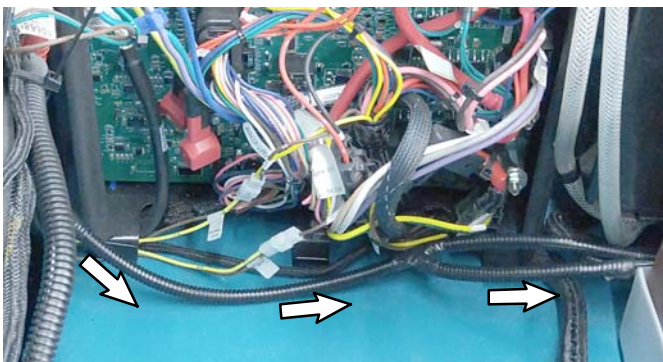

FIG. 17
18. Route telemetry harness next to the main wire harness and along the bottom and side of the circuit board assembly. Use cable ties (11) to secure telemetry harness to the main wire harness. (FIG. 17)